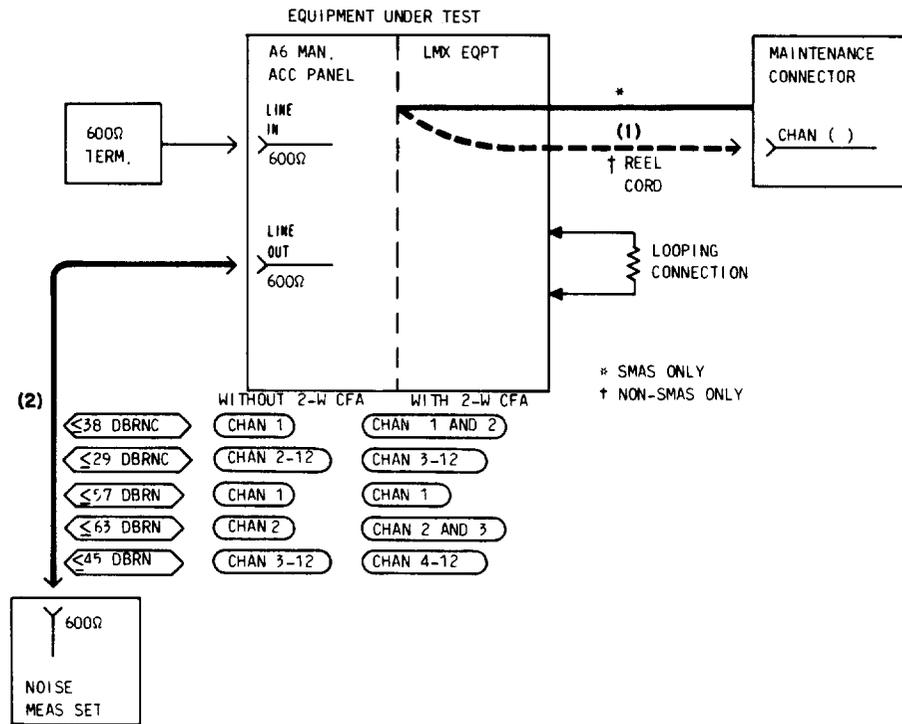

Fig. 10—Patching Diagram—Noise Test—Equal-Level Looping
17b†	Connect the retractable cord (on the 22AU MAP) to the CHAN BANK connector (on the maintenance connector) for Channel 1 [patch (1), Fig. 10].
19	Insert a 262B plug (600-ohm termination) in the LINE IN jack (Fig. 10).
20	Connect the NMS to the LINE OUT jack [patch (2), Fig. 10].
29*	Remove patch (2), Fig. 10.
31†	Remove the retractable cord (on the 22AU MAP) from the channel under test [patch (1), Fig. 10].
36†	Remove patch (2), Fig. 10, and the 262B plug inserted in Step 19.